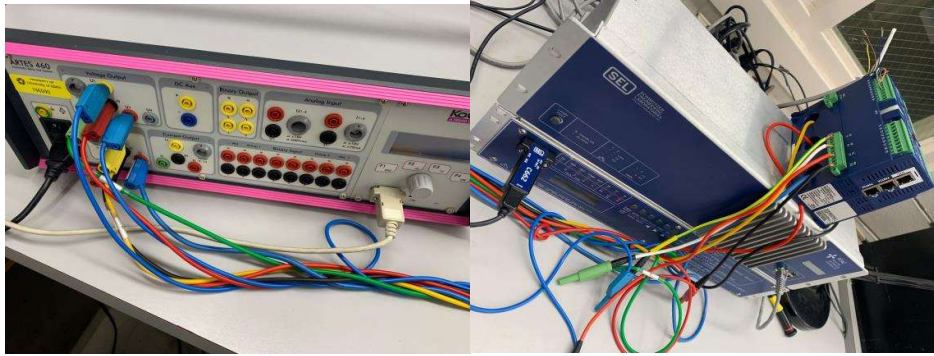

Figure 1: Connection between KoCoS ARTES and SEL 849 voltage inputs
- B. Use voltage transducer cables to connect to the KoCoS voltage outputs to the SEL 849 voltage inputs in a wye configuration as shown below (Figure 1).